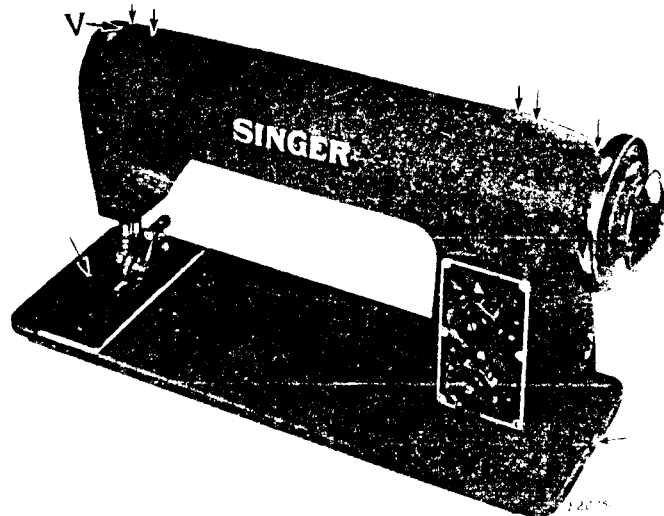

Fig. 5. Oiling Points in Arm and Machine Bed
Apply a few drops of oil twice daily to the oiling places indicated by arrows in Fig. 5. The oiling places are painted with vermilion lacquer.
**CAUTION**—The oil hole **V**, Fig. 5 is for the bonding foot bar. Too much lubrication at this point will result in the oil collecting on the bonding foot, the lower electrode and the insulating block to which the lower electrode is fastened. Keep these parts wiped clean at all times. When the machine is standing idle for some time as, for instance, over night, place a waste piece of the bonding material between the bonding foot and the lower electrode to prevent the oil from seeping down upon the lower electrode, insulating block, etc.